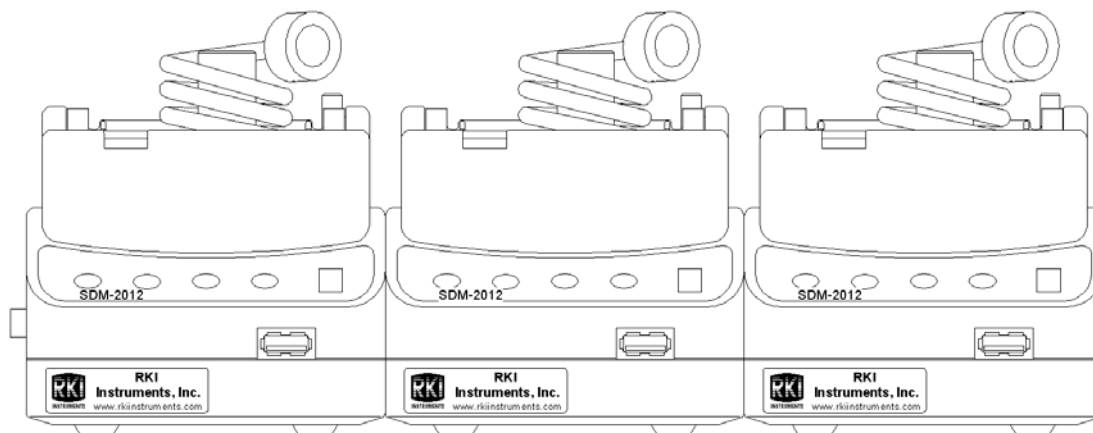

Figure 13: SDM-2012 Arrangement
2. If you have more than one SDM-2012, arrange them side by side as shown in Figure 13 below. Each docking station has three connection tabs on the left side near the bottom of the station and three connection recesses on the right side near the bottom of the station. The tabs from one docking station can be pushed into the recesses on another station to mechanically connect the docking stations.